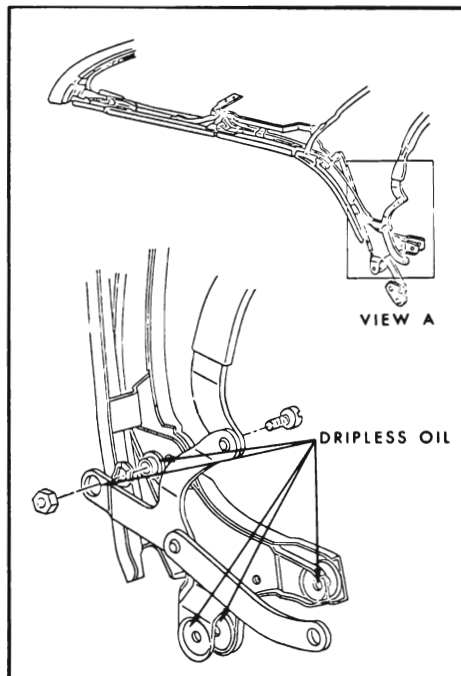

Figure 1-24—Folding Top Linkage
- d. Folding Top Linkage. See Figure 1-24.